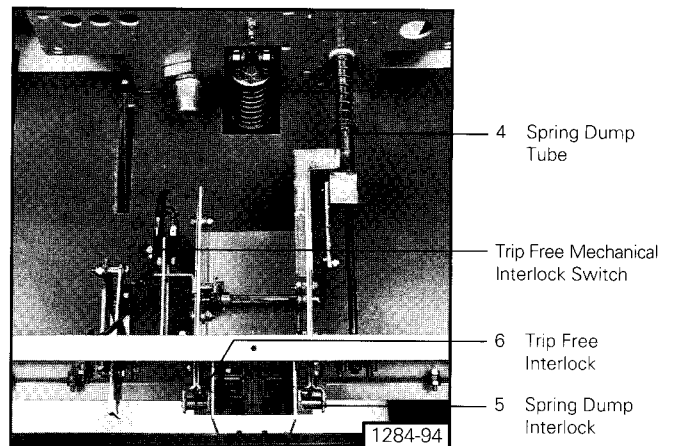

Figure 30. Interlock Mechanisms on 38-3AF Circuit Breaker
The operation of the trip free racking interlock may be seen in **Figure 30**. As the interlock (6) rises, it moves a series of linkages, which cause a guided tube (4) to rise, and enter the operating mechanism enclosure.
The operation of the spring dump interlock may be seen in **Figure 30**. As the interlock rises (5), it causes the guided tube (4) to rise and enter the operating mechanism enclosure.
In order to prevent the motor charging circuit from "making and breaking" as the breaker and cubicle secondaries make or break physical contact, an electrical switch is provided. This switch is mounted as shown in **Figure 30**. This switch is mounted in the line of action taken by the trip free interlock plunger, which follows the racking mechanism cam, and is elevated at all times while the breaker is in the drawout compartment, except when in the TEST or CONNECT positions. A striker plate, integral with the trip free interlock plunger, engages and operates (opens) the switch when the plunger is in an elevated position blocking spring charging motor operation. The switch is closed when the breaker occupies the TEST or CONNECT position, allowing the charging motor to operate automatically.